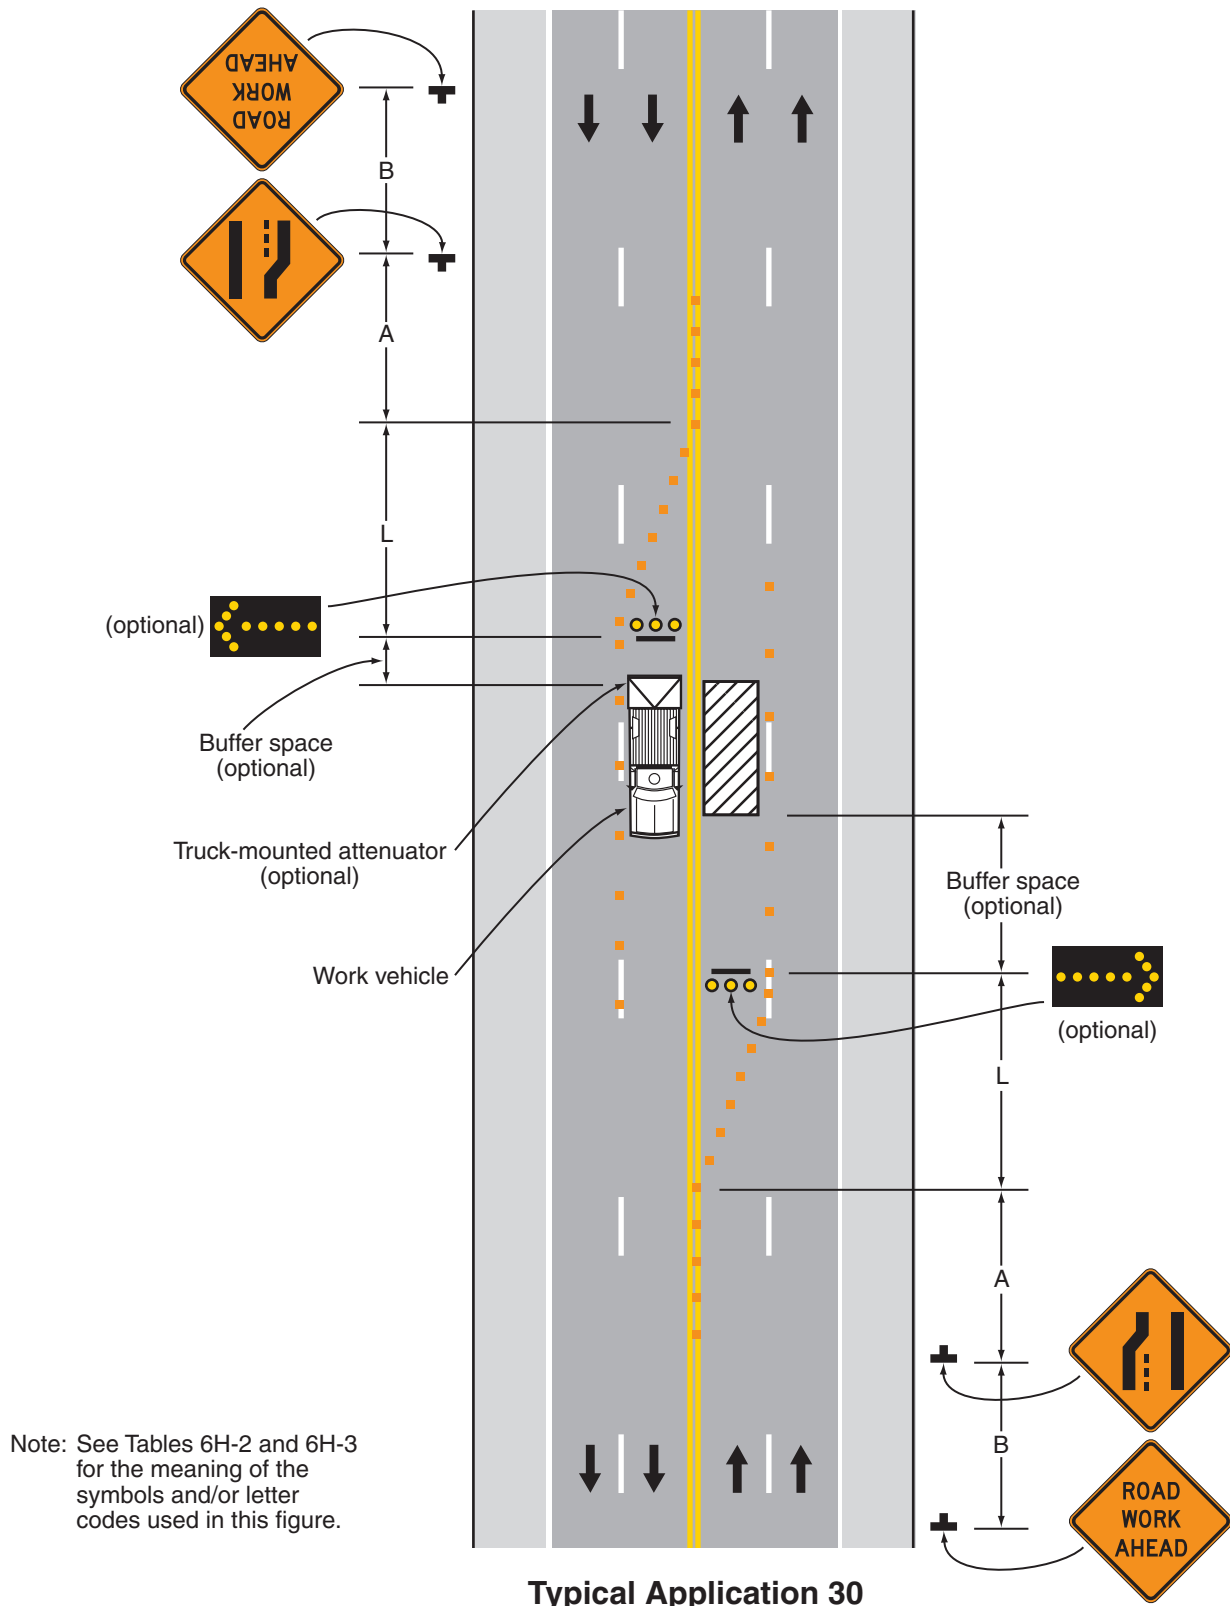

Figure 6H-30. Interior Lane Closure on a Multi-Lane Street (TA-30)
** The column headings A, B, and C are the dimensions shown in Figures 6H-1 through 6H-46. The A dimension is the distance from the transition or point of restriction to the first sign. The B dimension is the distance between the first and second signs. The C dimension is the distance between the second and third signs. (The "first sign" is the sign in a three-sign series that is closest to the TTC zone. The "third sign" is the sign that is furthest upstream from the TTC zone.)